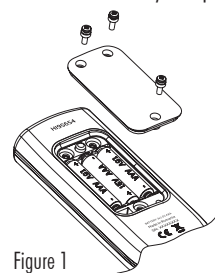

Figure 1
2. Remove the three screws on the back of the meter to open the battery compartment (figure 1).